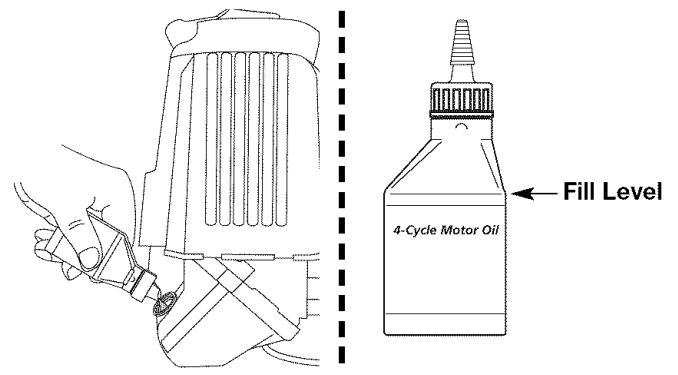

Fig. 18
**NOTE:** Use the bottle and spout saved from initial use to measure the correct amount of oil. Pour fresh fuel into the bottle and fill it to the top of the label. The top of the label on the bottle measures approximately 3.04 ounces (90 ml). Check the level with the dipstick. If the level is low, add a small amount of oil and recheck. Do not overfill (Fig. 18).
- Swing the cover to the left until the tab on the air filter cover snaps into place in the slot on the left side of the air filter housing (Fig. 18).